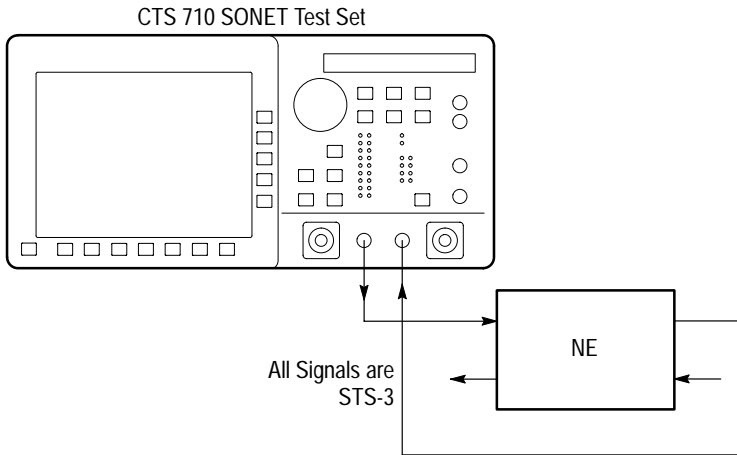

Figure 3–6: Setup to Check Line Frequency Offset Response
1. Connect the CTS 710 to an NE as shown in Figure 3–6.